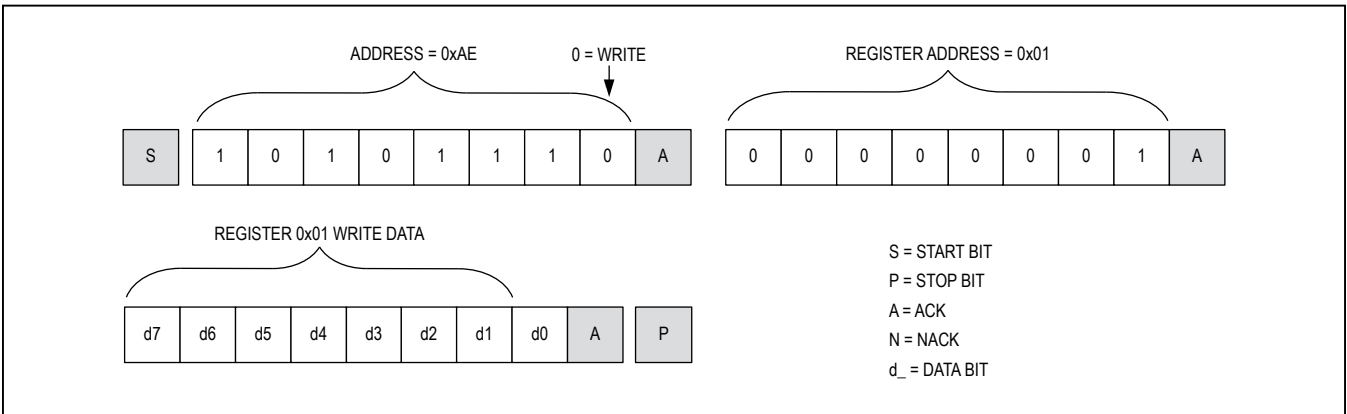
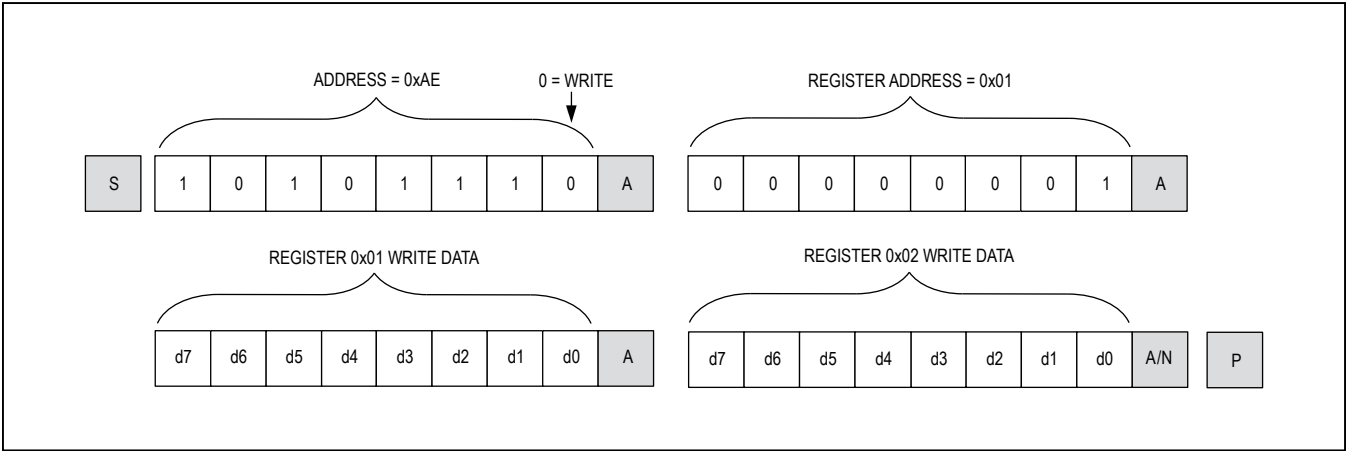

Figure 6. Format for I2C Write
Figure 7. Format for Writing to Multiple Registers
A write to the MAX20330A comprises the transmission of the slave address with the R/W bit set to zero, followed by at least 1 byte of information. The first byte of information is the register address or command byte. The register address determines which register of the device is to be written by the next byte, if received. If a STOP (P) condition is detected after the register address is received, then the device takes no further action beyond storing the register address. Any bytes received after the register address are data bytes. The first data byte goes into the register selected by the register address and subsequent data bytes go into subsequent registers (Figure 6). If multiple data bytes are transmitted before a STOP condition, these bytes are stored in subsequent registers because the register addresses autoincrement (Figure 7).